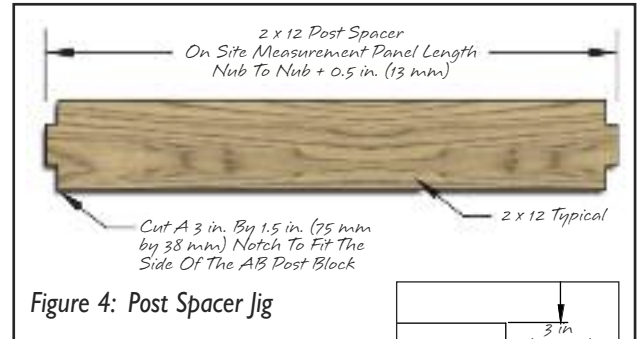

Figure 4: Post Spacer Jig
The 2 x 12 post spacer (Figure 4) is used to help keep the AB Fence Post Blocks square and aligned as the posts are positioned on the pile and as additional post blocks are being stacked.
- Use the 2 x 12 post spacer shown in *Figure 4* to help keep the post blocks square and aligned. When errors in spacing occur on post layout, adjustments should be confined to the panel between the two incorrect posts.